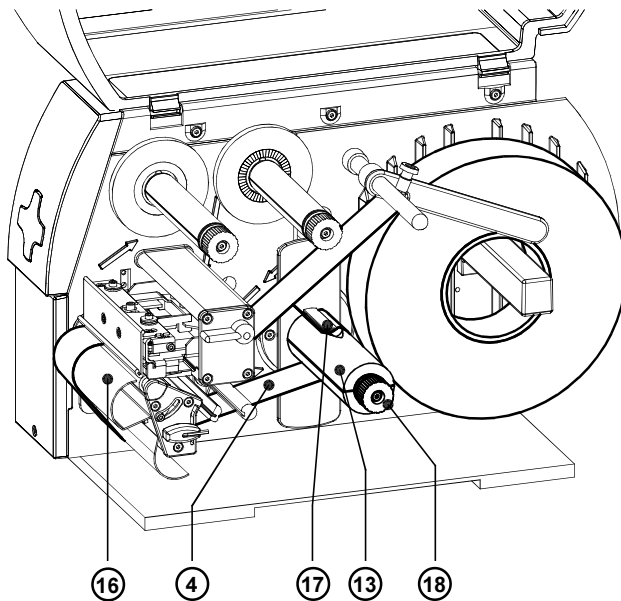

Fig. 7f Loading Labels from Roll in Rewind Mode
12. In rewind mode, the rewind guide plate (16) must be mounted. Remove the labels from the first 4 in (100mm) of the label strip. Then, slide the media strip (4) around the rewind guide plate (16) to the internal rewind hub (13) as shown in figure 7f. Slide the strip under the clamps (17) that are located on the internal rewind hub (13). Hold the internal rewind hub (13) and rotate the nut (18) counter-clockwise until it is tight. The media strip will now be fastened to the internal rewind hub (13). Rotate the internal rewind hub (13) counter-clockwise to tighten the media strip.